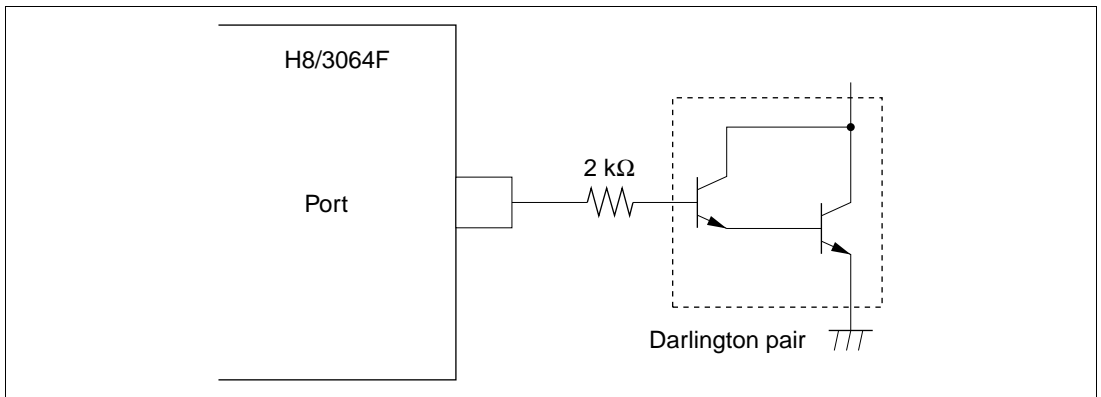

Figure 20.1 Darlington Pair Drive Circuit (Example)
2. When directly driving a darlington pair or LED, always insert a current-limiting resistor in the output line, as shown in figures 20.1 and 20.2.